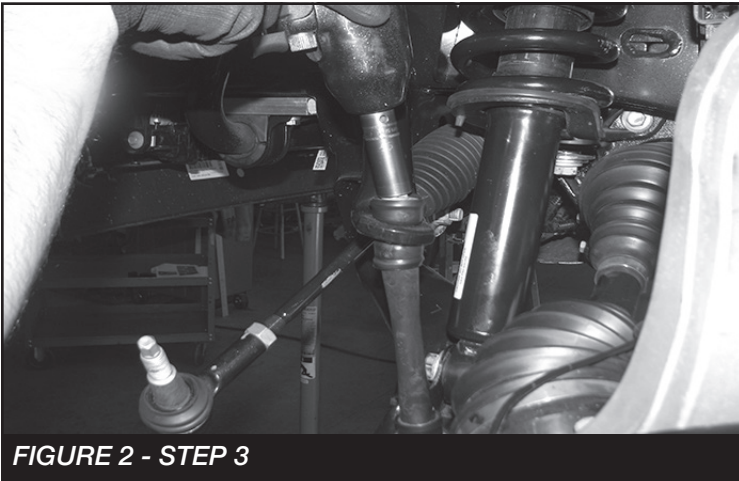

FIGURE 2 - STEP 3
3. Disconnect the sway bar at the sway bar end link. Save all hardware. **SEE FIGURE 2**